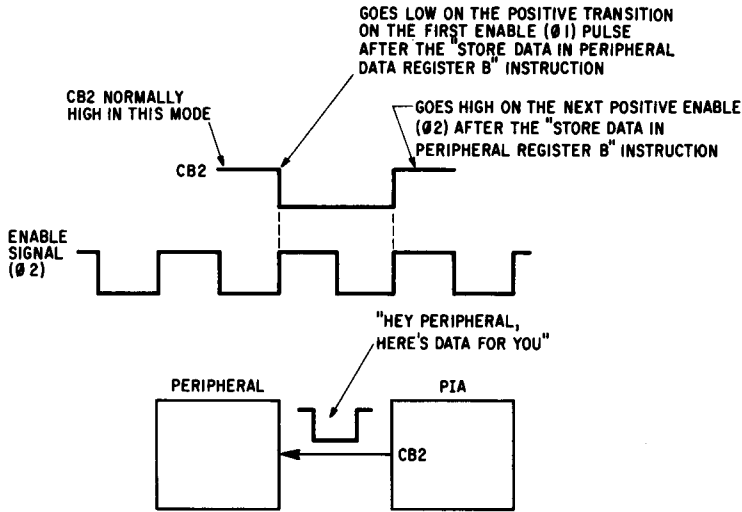

Fig. 9.20 Pulse mode
2. *Bit 5,3 of CRB = 101 (Pulse Mode)* This mode is used to tell the peripheral that data is available in PIA peripheral data register B (see Fig. 9.20).